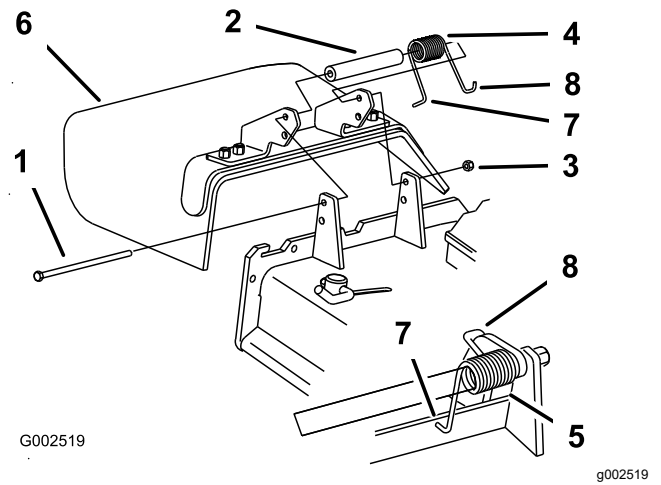

Figure 42
1. Remove the locknut, bolt, spring and spacer holding the deflector to the pivot brackets (Figure 42).
Note: Make sure that the **L** end of the spring is installed behind the deck edge before installing the bolt as shown in Figure 42
5. Place the **J**-hook end of the spring around the grass deflector (Figure 42).